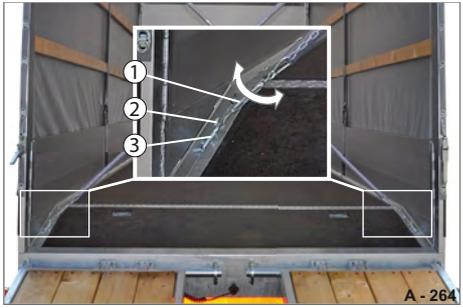

Fig. 206 Releasing the diagonal bracing
- ▶ Fasten the hook (Fig. 206/2) from below to the lashing shackle (Fig. 206/3).
- ▶ Tension the turnbuckle (Fig. 206/1) hand-tight with a tool.
- ▶ Turn the turnbuckle (Fig. 206/1) with a tool until the hook (Fig. 206/2) can be removed from the lashing shackle (Fig. 206/3).